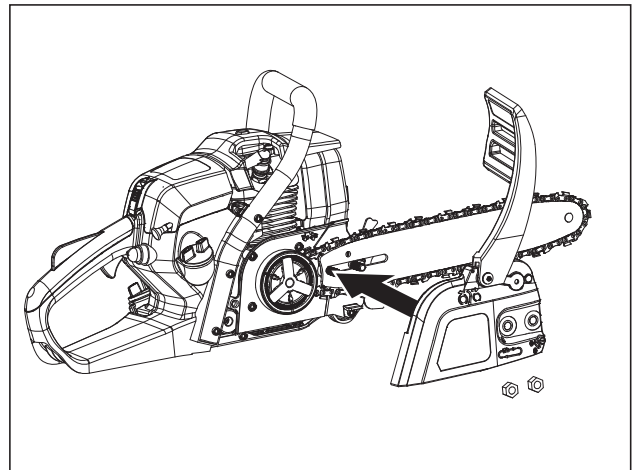

Fig. 34
6. Align the guide bar and saw chain assembly with the drive sprocket and bolt . Lay the saw chain around the drive sprocket and then lower the guide bar to install it to the bolt (Fig. 34).